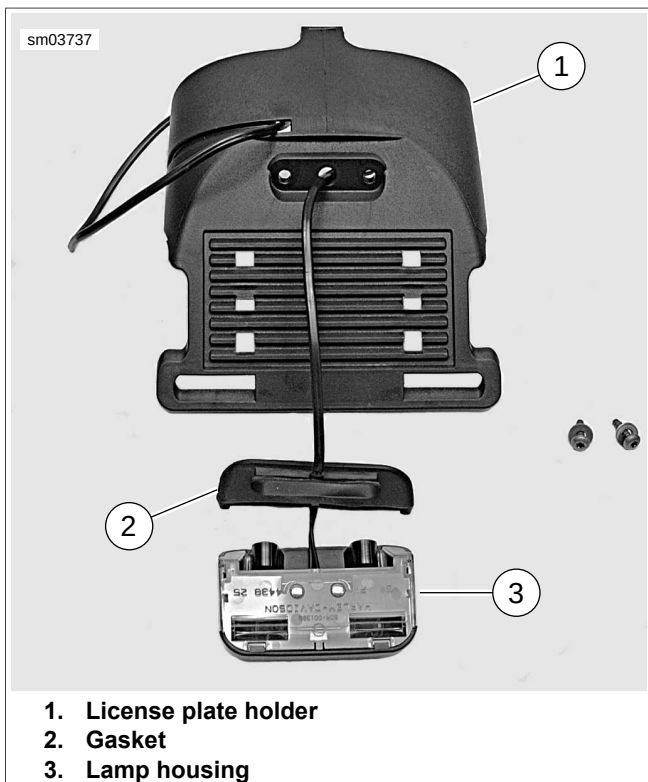

**Figure 6-58. License Plate Holder: XL 883N, XL 1200X (HDI)**
8. See Figure 6-58. Remove two fender support screws with washers (4). Remove screw with washer (5) securing rear fender to fender brace (2). Remove fender brace and license plate holder assembly (1).
4. See Figure 6-58. Fit tab (3) on license plate holder (1) into slot in rear fender brace (2). Install assembly onto vehicle. Install screw with washer (5) through fender and into fender brace. Tighten only finger-tight at this time.
5. Install two screws with washers (4) through fender struts, fender, fender brace and into threaded inserts in license plate holder.